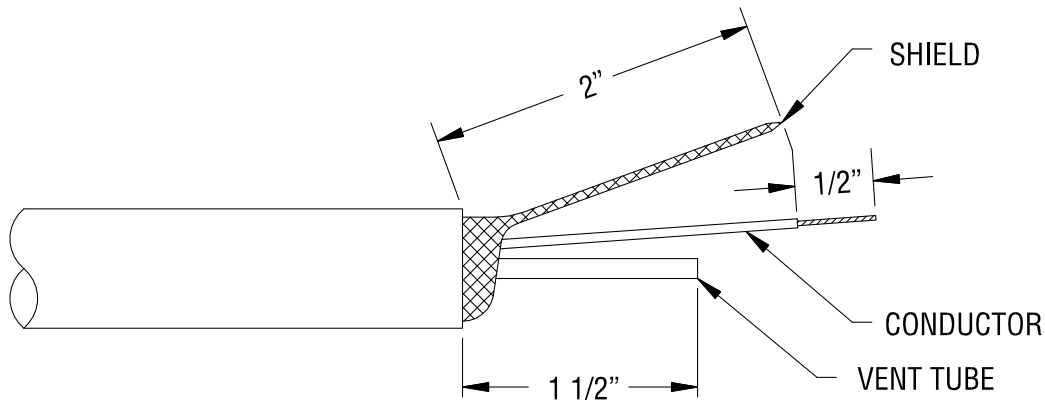

FIGURE 2
Step 3 Prepare each cable end as shown in **Figure 2** and described on the following page.
- Step 3f** Cut the vent tube to a length of 1 1/2" as shown in **Figure 2**.
- Step 4** For mV output units, all four (4) conductors are needed. For voltage output units (e.g., 0-5 or 0-10 VDC), only the red, white and black conductors are needed. For 4-20 mA output units, only the red and black conductors are needed. Cut the unused conductor(s) as short as possible. Required conductors should be cut to a length of 2 ½" as shown in Figure 2. One-half inch (1/2") of wire insulation should be stripped from the ends of required conductors.